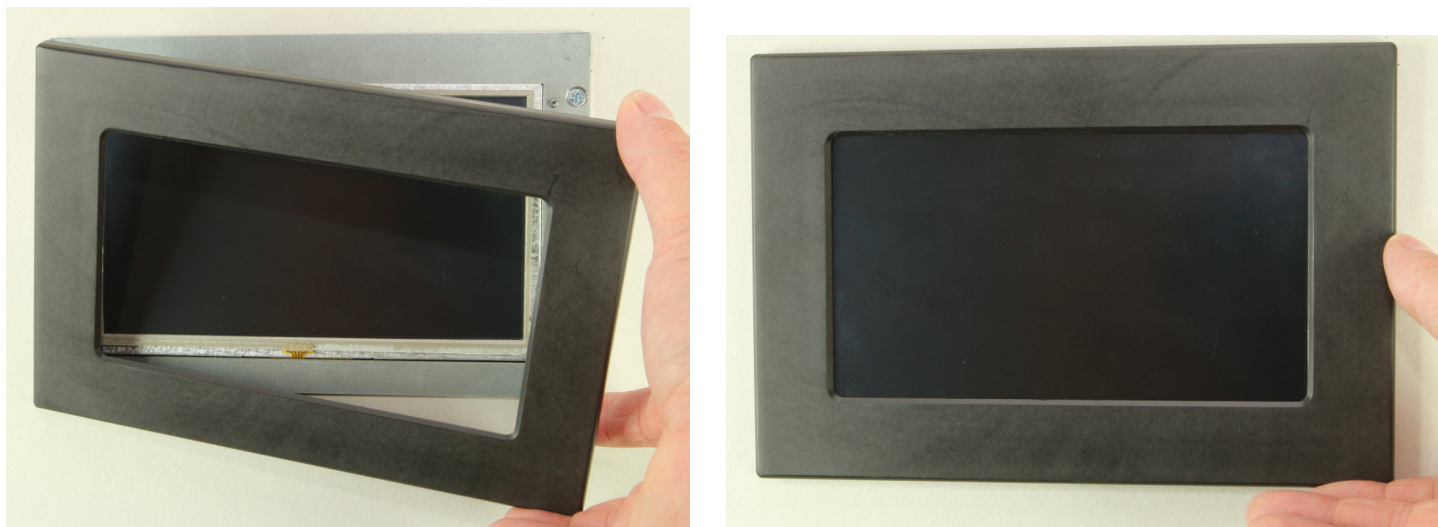

Figure 13 Installing the Plastic Bezel
15. Place the touch screen in the opening, orient so front assemble glass screen flat cable is in the lower portion of the screen as shown in figure 13 for landscape orientation, or on the right side for portrait orientation.